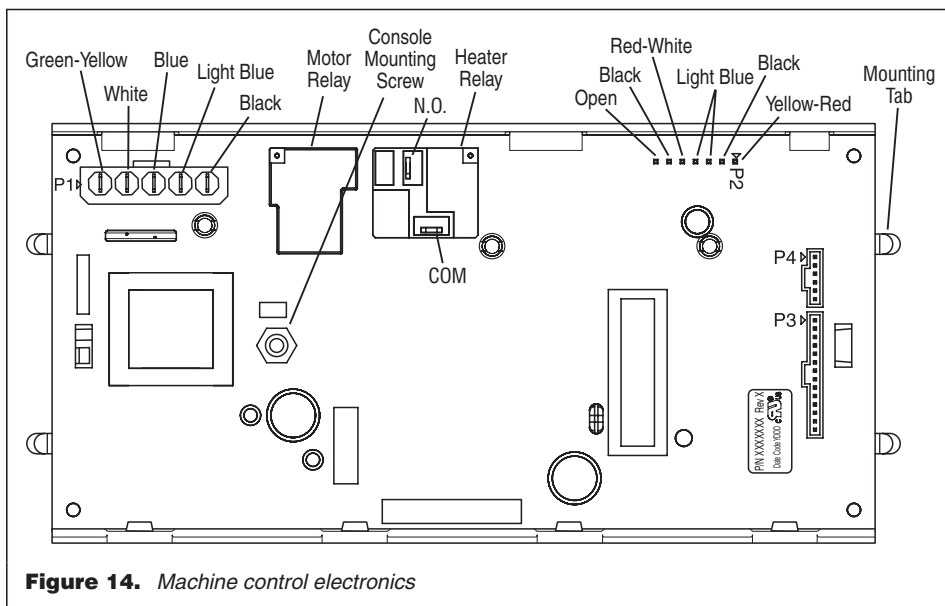

Figure 14. Machine control electronics
- Disconnect the ribbon cables at P3 and P4 on the machine control electronics. See figure 14 on page 7 for connector locations.
3. Remove all the wire connections to the machine control board. See figure 14, page 7.